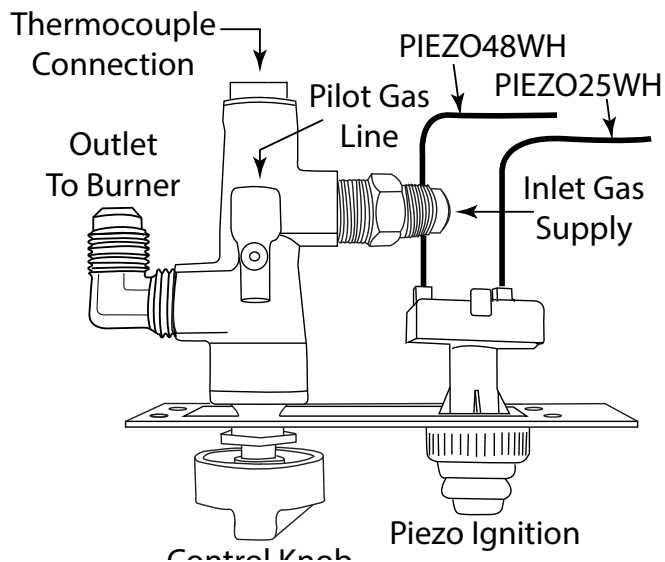

Fig. 7 TPSI control panel mounting plate.
3. The primary gas shut-off (not supplied) will require a ½" male flared fitting to enable connection of the stainless steel flex gas line supplied with the fire pit (see Fig. 7 page 9).